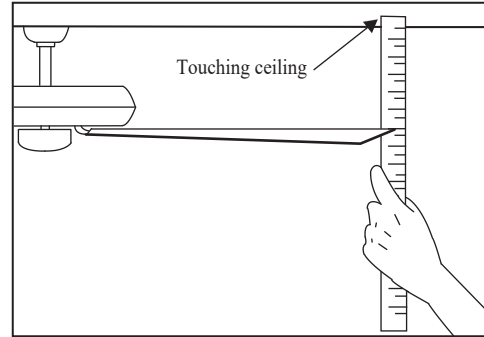

Figure 13
- Select a point on the ceiling above the tip of one of the blades, then select any fan blade and measure from the center of the selected blade to the point on the ceiling (as shown in Figure 13). Rotate the fan until the next blade is positioned and repeat the measurement using the same point from the ceiling for every blade. Measurement deviations should be within 1/8" .